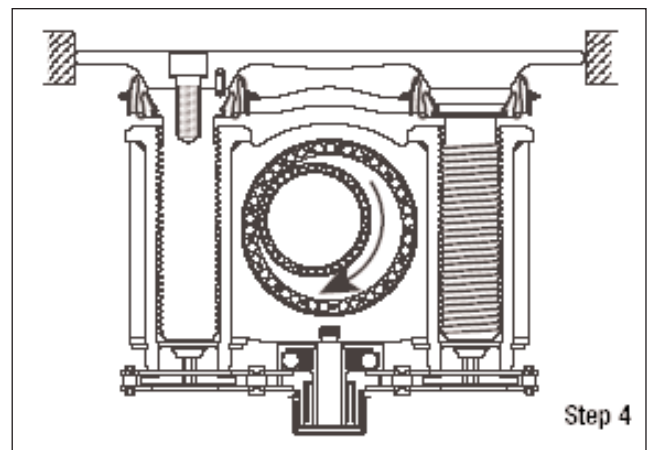

Fig 1.10
m) The unidirectional bearing free-wheels without transmitting motion to the gear housing, thus avoiding brake adjustment. The relative piston / sleeve adjustment position does not vary. Therefore, clearance compensation of pre-existing rotor and pads remains unchanged. (Fig. 1.10).